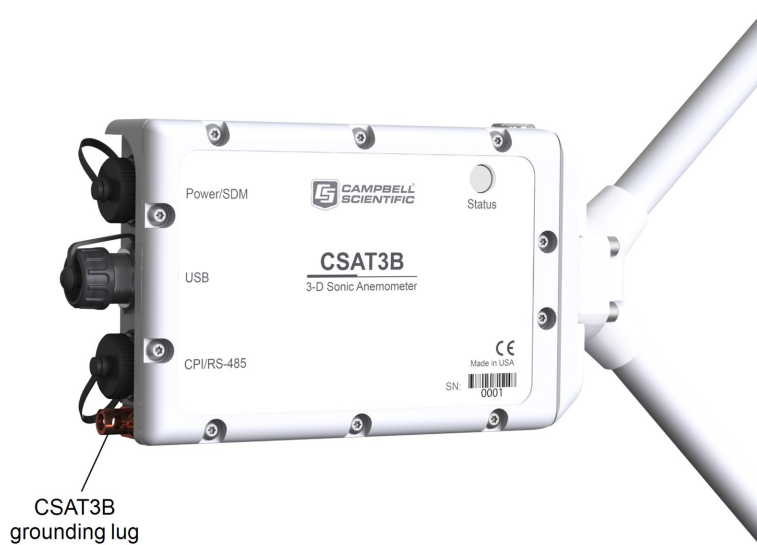

Figure 6-9. Grounding lug of CSAT3B
The CSAT3B and data logger enclosure must be earth grounded to the same grounding rod. They should be grounded from their grounding lugs (shown in Figure 6-9 (p. 32) and 6.8 (p. 31), respectively) as described generally in the following steps.
On the back of the CSAT3B block is a copper grounding lug (refer to Figure 6-9 (p. 32)). Use a standard flat-head screwdriver to pinch a wire (from 8 to 14 AWG) between the lug and the lug screw. Campbell Scientific offers a 10 AWG copper wire that is suitable for grounding sensors. Connect the other end of the wire to the tripod or tower, which should be grounded to earth with a grounding rod. A 5-ft copper-clad grounding rod ships with Campbell Scientific tripods, or it can be purchased separately.
The CSAT3B has three watertight circular ports or connectors at the rear of the block. These are labeled **Power/SDM**, **USB**, and **CPI/RS-485** as shown in Figure 6-9 (p. 32). Unless a port is in use and connected to a cable, they should be securely covered by one of the caps that are captive to the CSAT3B.
1. Ground the CSAT3B and data logger to the tower by attaching a user-supplied, heavy-gauge wire from the copper grounding lug on the back of the CSAT3B block (see Figure 6-9 [p. 32]).